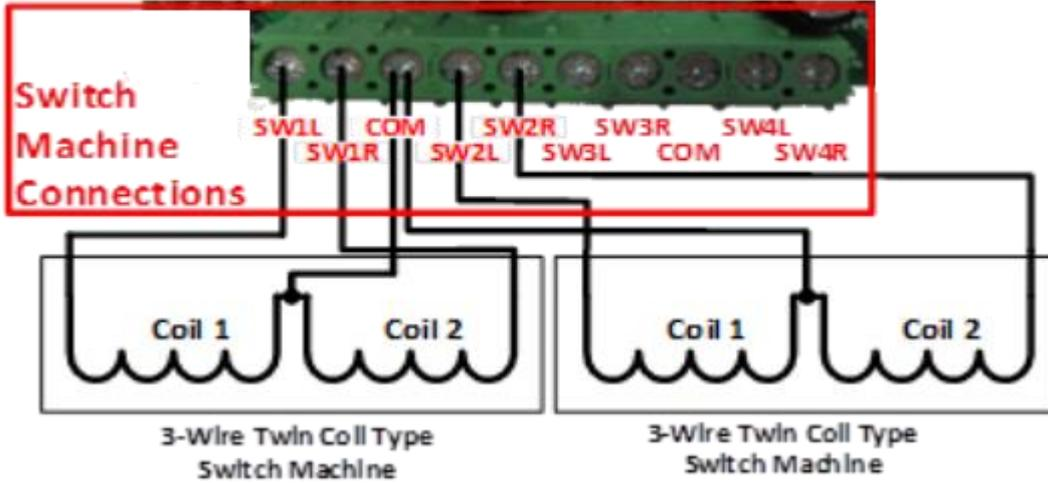
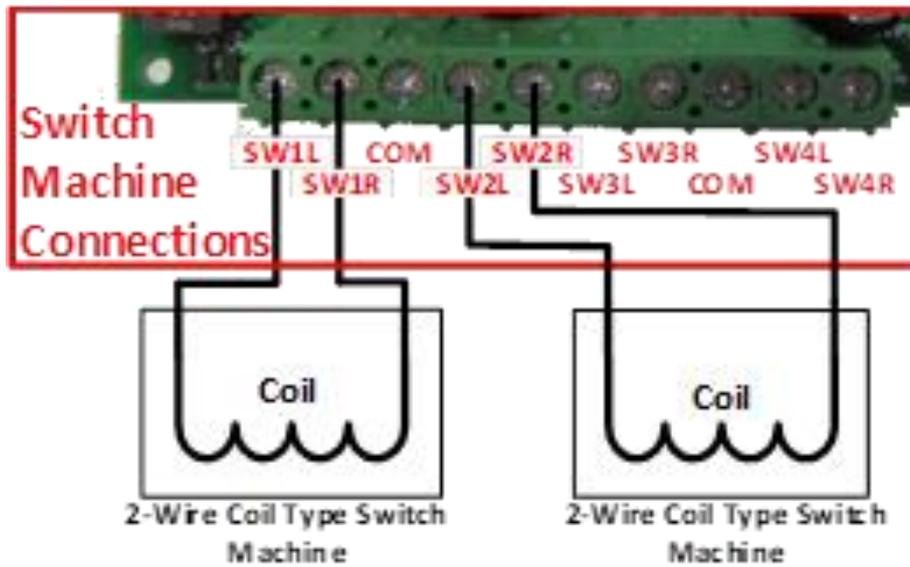
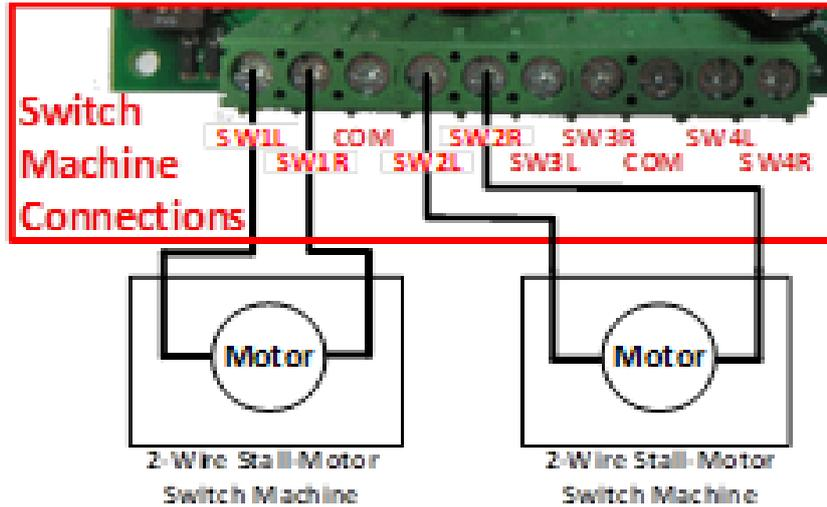
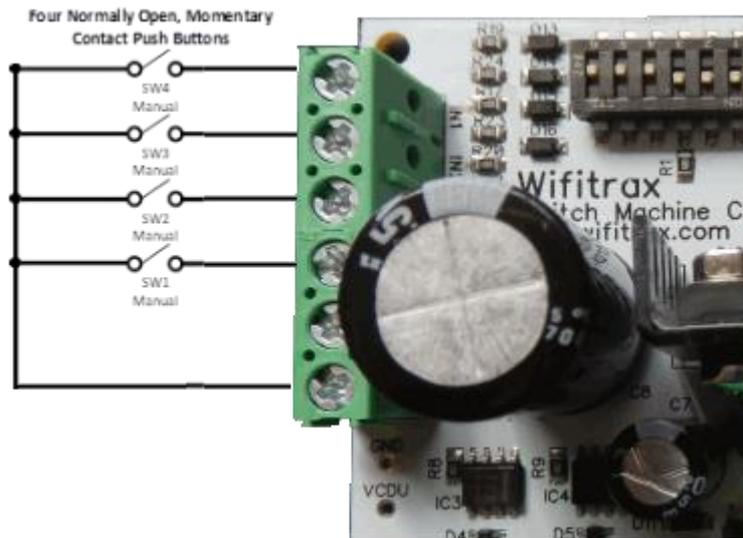

Figure 2 . Connection Diagram for 3-Wire Twin Coil Switch Machines
Figure 3 Connection Diagram for 2-Wire Coil-Type Switch Machines
Figure 4 . Connection Diagram for Stall Motor Switch Machines
Figure 5 Connecting manual control push buttons
Connect your switch machines as in Figure 2 Figure 3 or Figure 4.
The WFS-47 allows for manual control of the switches connected to it using normally-open push button switches connected as in Figure 5. Be sure to connect the common line from the switches to the GND Out (Ground). Do not connect anything to the +3.3V OUT. This is included for possible feature expansion by firmware upgrade and is not currently used. In particular, **DO NOT CONNECT POWER ACCIDENTLY TO THE 3.3V OUT** as this will instantly destroy the module!
- (1) First determine what kind of switch machines you wish to control. WFS-47 will control two basic types: Stall Motor and Twin Coil. Use Table 1 and Table 2 to set Twin-Coil or Stall-motor mode and also to set the voltage suitable for your switch machine. You CANNOT mix stall-motor and twin-coil switch machines on the same module but you CAN mix 2-wire and 3-wire twin coil switch machines. You can also use one channel to control more than one switch, if these are always operated together.
- (2) Wire the WFS-47 to your switch machines according to Figure 2, Figure 3 or Figure 4.
- (3) Optionally connect manual push-buttons as in Figure 5.
- (4) Make sure the DIP switches are set correctly.
- (5) Connect power to your unit at TRKA and TRKB as shown in Figure 2 through Figure 4. It does not matter which way round you connect the power. You can also use DCC track power but NOT AC. The power should be between 12 and 18 volts. Alternatively use the Power Jack.